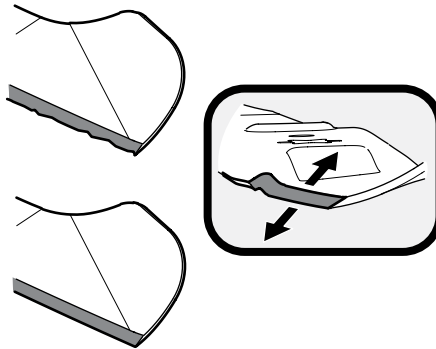

Figure 4-14
- To properly sharpen the cutting blades, remove equal amounts of metal from both ends of the blades along the cutting edges, parallel to the trailing edge, at a 25° to 30° angle. Always grind each cutting blade edge equally to maintain proper blade balance. See Figure 4-14.